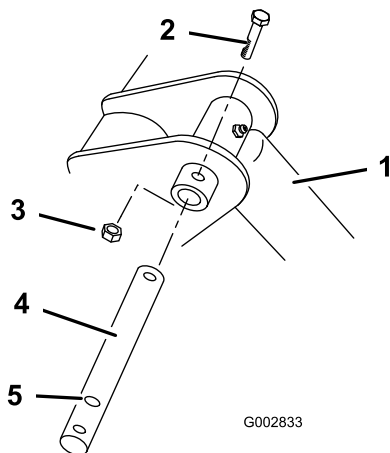

Figure 2
2. Remove the bolt and nut securing the upper tilt cylinder pin on the traction unit (Figure 2).
4. Install the new pin into position and secure it with the bolt and nut removed previously, using the middle hole on the pin (Figure 2).